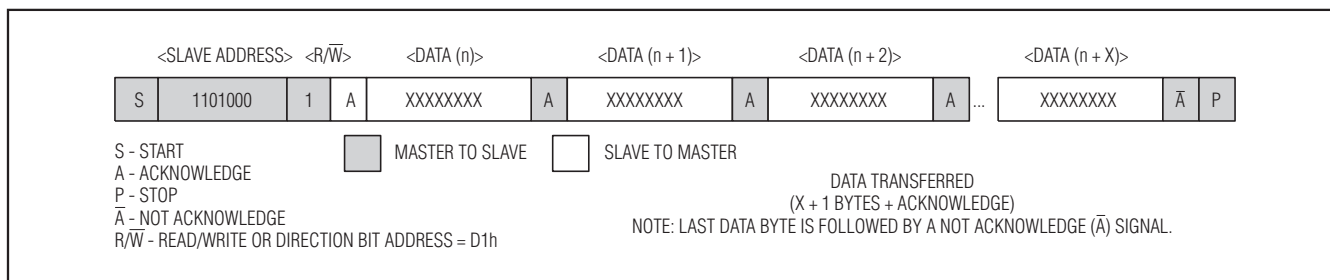

Figure 4. Data Read—RTC Slave Transmitter Mode
**2) Slave transmitter mode (DS32B35/DS32C35 read mode):** The first byte is received and handled as in the slave receiver mode. However, in this mode, the direction bit indicates that the transfer direction is reversed. The device transmits serial data on SDA while the serial clock is input on SCL. START and STOP conditions are recognized as the beginning and end of a serial transfer (see Figure 4). The slave address byte is the first byte received after the master generates the START condition. The slave address byte contains one of the 7-bit device addresses. The slave address is 1101000 for the RTC. For the DS32B35 FRAM, the first four bits are 1010, and the next three bits select one of eight